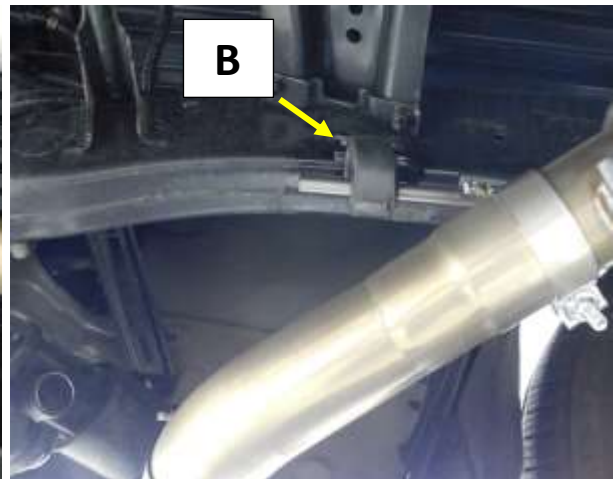

Figure 8
13. Install the Exhaust Isolator (B) at the frame hanger. Fig.8